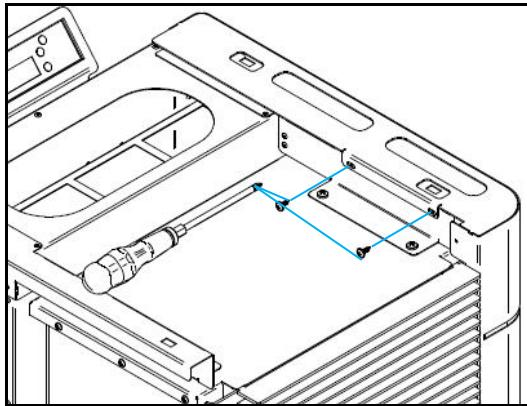

Figure 22 - Attaching the side casings the top of the unit
- d) Repeat the process described in b) and c) in this manual for the other casing and secure the side parts using four screws from the kit, two on each side, as shown in Figure 22.